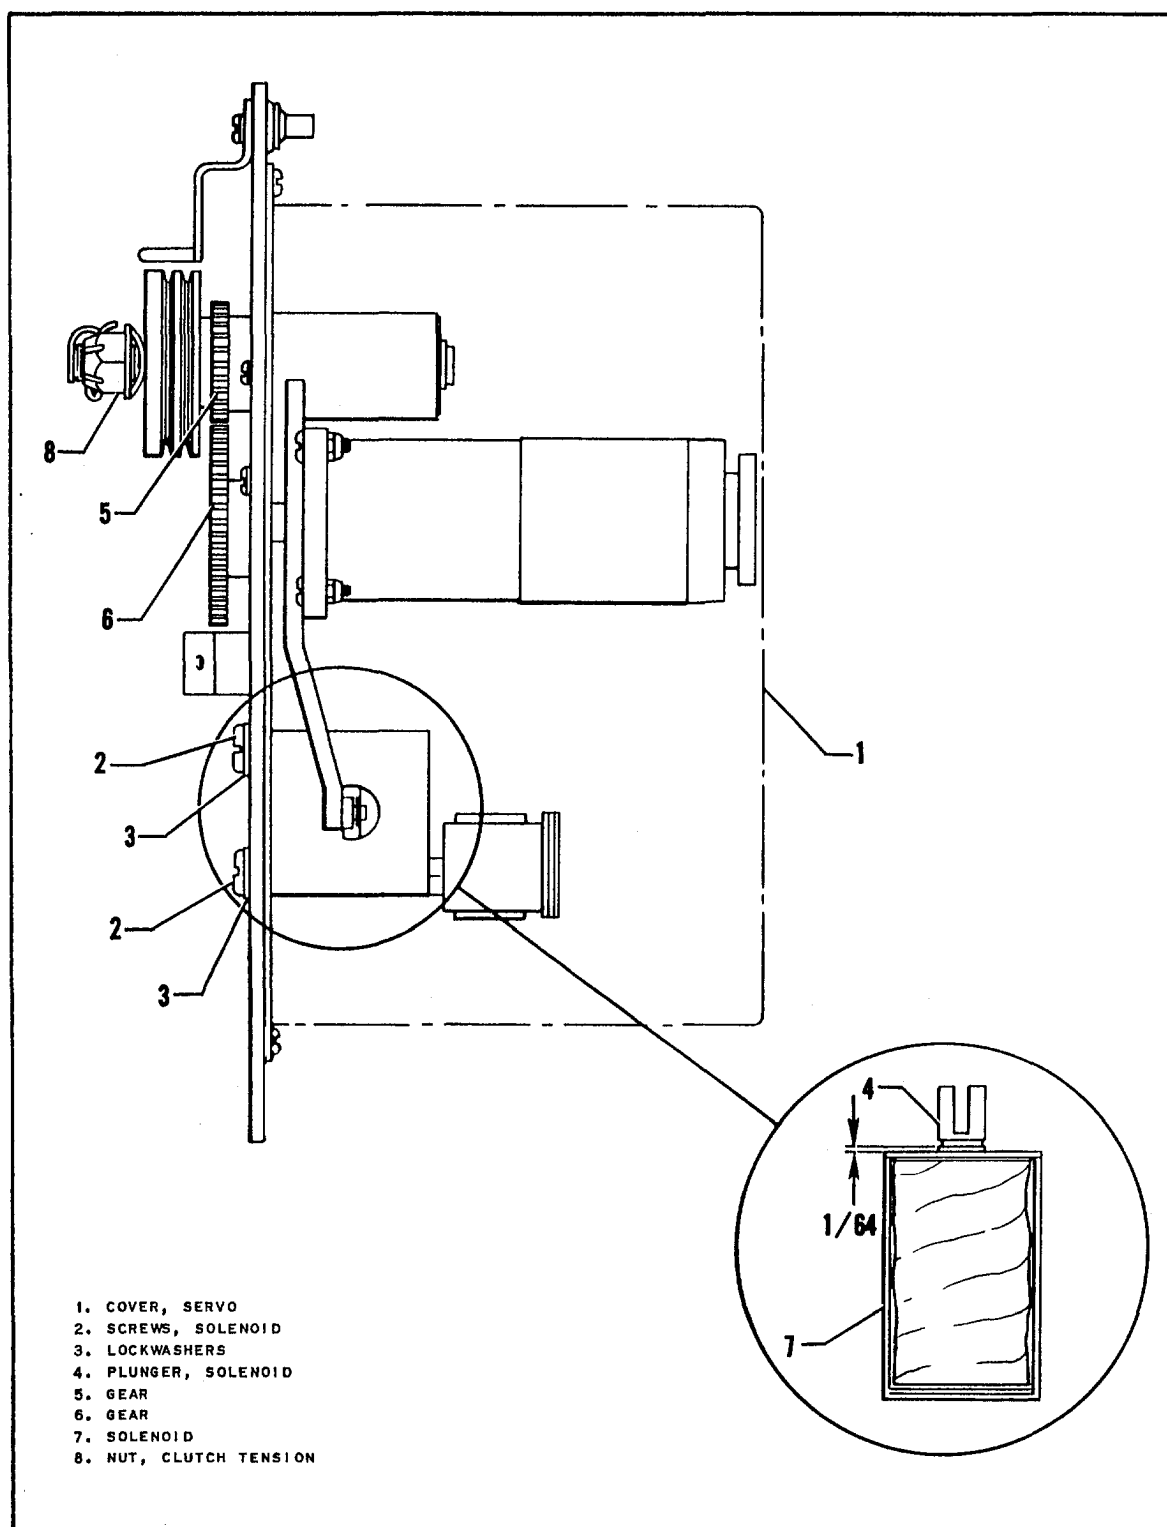

Figure 10-2 Clutch and Clutch Solenoid Coil Adjusting Details
- e. To adjust clutch, refer to Figure 10-2 and proceed as follows:
10-4. III SERIES TRIM SERVO ENGAGE SOLENOID ADJUSTMENT FOR 1D345 AND 1C463 SERVOS ONLY. (Refer to Figure 10-2.)